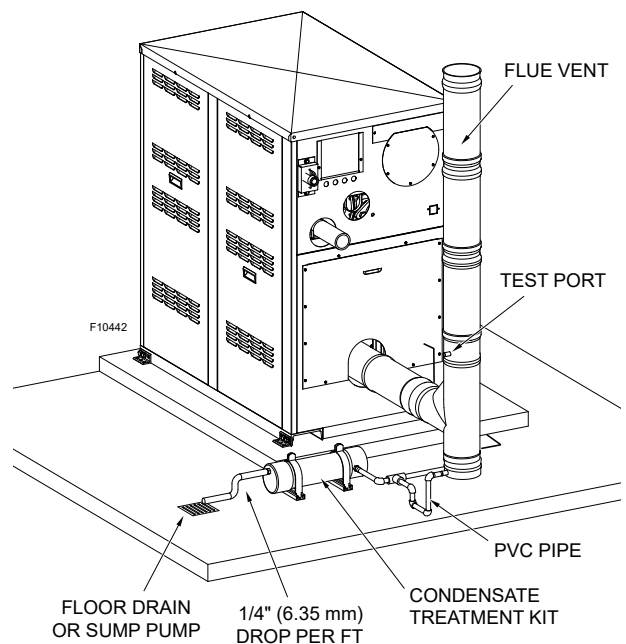

Figure 40. Visual Guide for Condensate Piping
Vent pipe condensate drains and appliance condensate drains are also required for installation of the XTherm. Follow vent manufacturer instructions for location of condensate drains in the vent. The condensate drain lines should also be routed through a treatment kit, as required by local code. See Figure 40.
**CAUTION:** In general, the condensate piping from the appliance must have a downward slope of 1/4" per horizontal foot. Condensate drain traps must be primed with water to prevent gas flue leaks. Treatment kits should be checked at least once per year. To ensure the pH of the effluent is 5.0 or higher, the media should be replenished as necessary. When replacing the media, they should be no smaller than 3/4" to avoid blockage in the condensate piping. Figure 40 is a visual guide only. Follow the manufacturer's instructions for the installation of the Treatment kit and condensate drains.